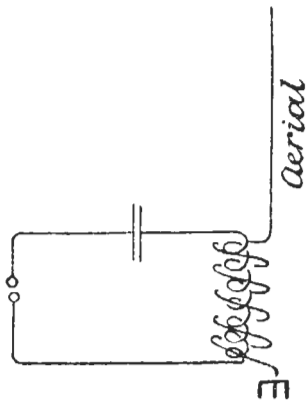
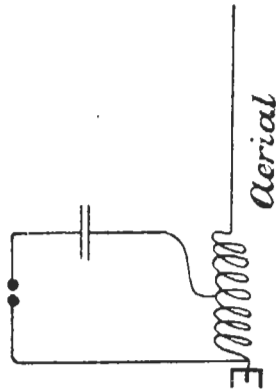

FIG. 35.
FIG. 36.
12. In the Service the "Oscillator" system has, to a great extent, replaced "Plain." The original idea of the oscillator system was to generate a definite wave-length in a primary system, and transfer the energy of that wave-length into an aerial by means of mutual induction. Figs. 35 and 36 show diagrammatically two ways of doing this; these methods are electrically the same.
Fig. 35 is the method adopted by Mr. Marconi; Fig. 36 is that adopted by Count Arco, and known as the Slaby-Arco.